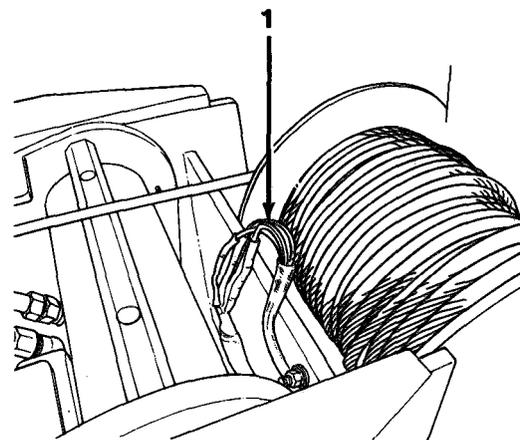

Figure 15-1
10. Connect electrical wiring (1, Figure 15-1) to boom.